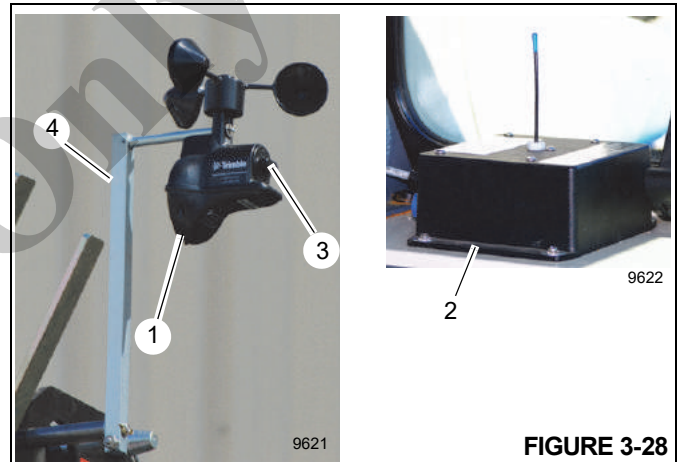

FIGURE 3-28
The cranes feature an optional wind speed indicator to measure wind speed at the end of the boom. The wind speed indicator features a radio anemometer assembly and a wireless gateway router. The anemometer (1, Figure 3-28), which captures wind speed data at the end of the boom or jib, is battery powered and communicates wirelessly with the gateway router (2) located in the crane cab. The gateway router receives data from the anemometer and routes the data to the RCL display. For information about how the wind speed indicator appears in the RCL, see Table 7-3 on page 7-4.
2. Remove the battery cover (Figure 3-28) and old battery from the anemometer.